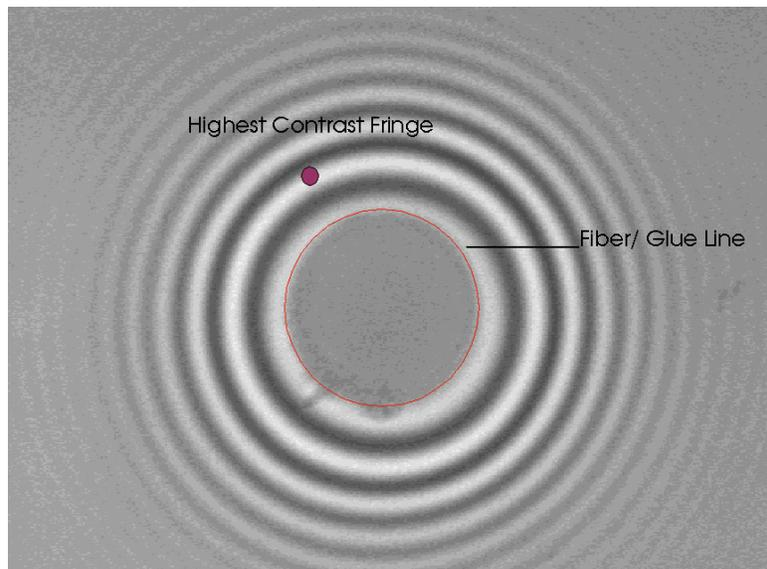

Figure 95.
- Adjust the focus micrometer to ensure that the highest contrast fringe is on the highest point of the connector. If you are expecting a large undercut, adjust the focus of the sample so that the highest contrast fringe is on the ferrule surface just outside of the glue line as shown in figure 95.